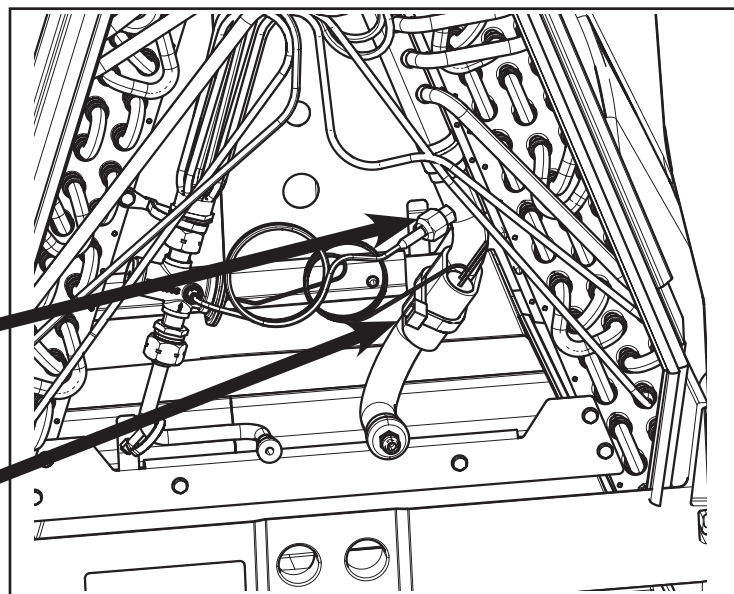

Figure 40 – Attach the equalizer line and TXV sensing bulb
10. Connect the equalizer line to the new coil as shown in Figure 40.
11. Clip the TXV sensing bulb to the coil suction line tube as shown in Figure 40. Cover with piece of provided insulation. Secure insulation with field supplied cable tie.